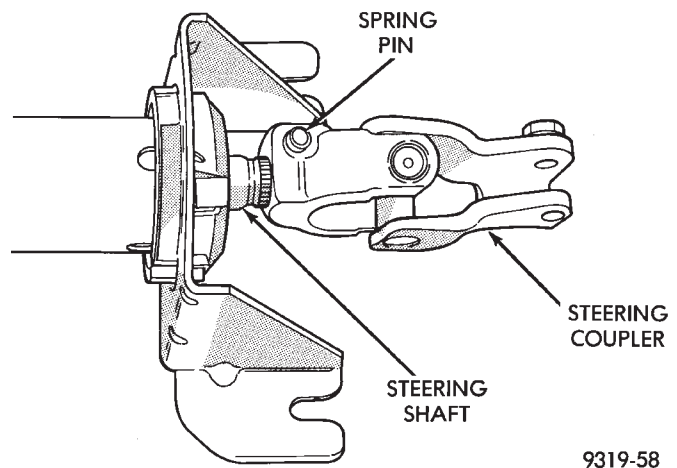

Fig. 3 Coupler Removal From Steering Column Shaft
(1) Remove steering column assembly from vehicle. Refer to the Steering Column Removal Section in this group of the service manual for the required removal procedure.
(2) Remove steering coupler from steering shaft (Fig. 3) by removing spring pin from coupler and sliding coupler off end of steering shaft. Steering column shaft must be supported during removal of spring pin. This is to prevent damage to steering column bearings.